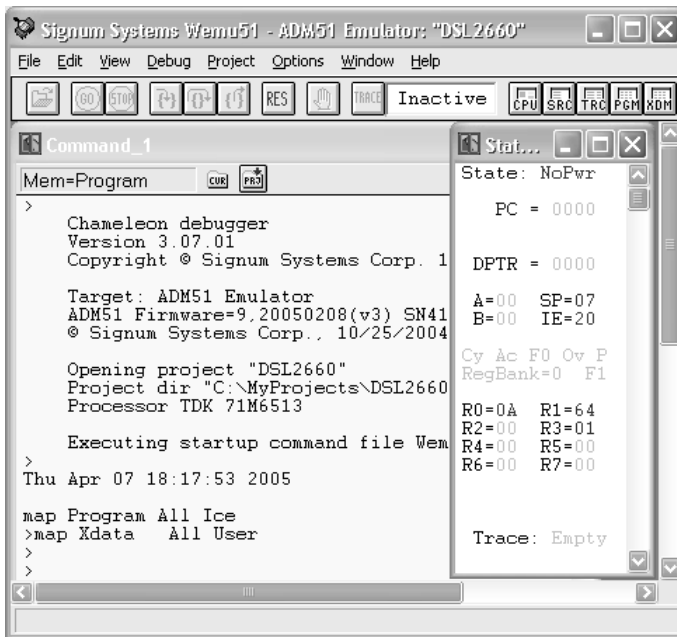
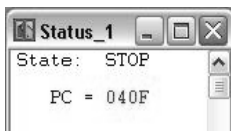

FIGURE 10 Chameleon WEMU51 detects the No Target Power condition.
FIGURE 11 Target Power On and CPU Stopped condition acknowledgement.
- If you have not turned the target power on, the Status window displays the NoPwr state in, and the Command the “No Target Power” message appears in the Command window (Figure 10). If this is the case, turn power the emulator now. Chameleon acknowledges the power-on state in the Status window by displaying STOP as the processor state (Figure 11). It is recommended to keep the Status window opened permanently for monitoring the status of the processor and important processor registers.